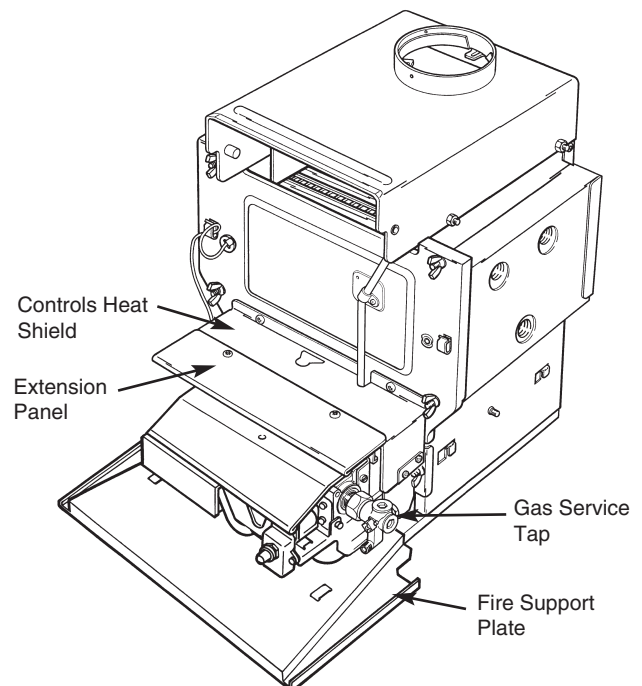

Fig. 4 Wall Fixing - Support Plate
The electrical supply to the fire is via a length of 3 core cable with 3 pin socket provided. The cable must be connected to the electrical plug and socket on the boiler base (Fig.4). These connections should be made when the boiler electrical connection is made as follows: (See also Boiler Installation Instructions). The supply must be 230V 50Hz 110W.
4. It is necessary to unscrew and remove the extension plate from the boiler controls heat shield. Once removed this item can be discarded (Fig.4).
1. Slide the fire support plate over the overhanging boiler base (Fig.4). Using the screws provided, loosely attach the plate using the slots at each side.
3. Turn on the gas service tap (at present supplying gas to the boiler only) fully anti-clockwise. The service tap is now supplying both the boiler and the fire (Fig.4).
4. Turn off the gas service tap by turning fully clockwise (Fig.4).